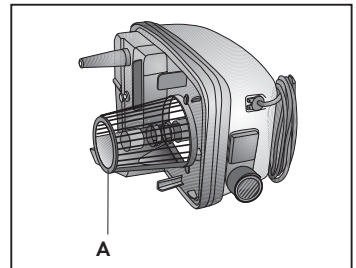

Fig. 24
- Empty the recovery tank (2).
- Activate the vacuum function using the vacuum button (19) and draw water through the accessories previously used for cleaning.
- Empty the recovery tank (2) and repeat the operation as necessary.
Every time the bottom part of the appliance is cleaned, clean any solid residues off the outside of filter (A) **(Fig. 24)**.